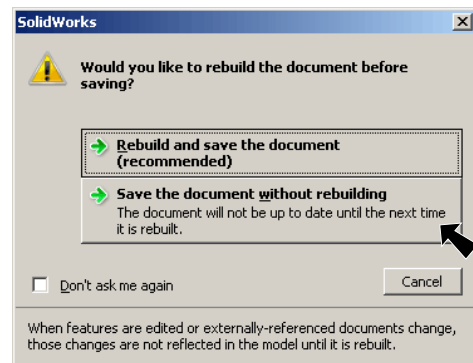

Fig. 5
Step 7. Click **Save the Document without rebuilding**, **Fig. 5**.